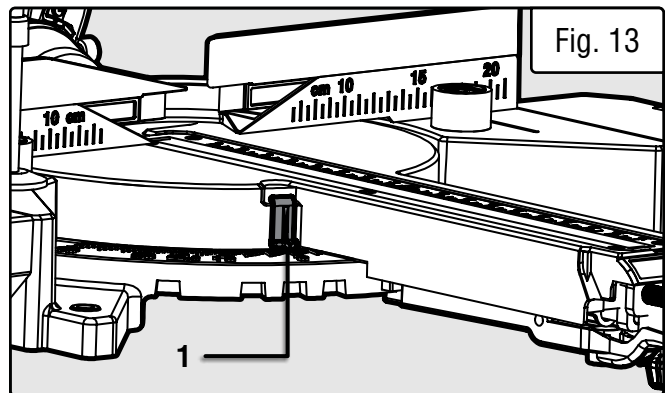

Fig. 13
1. Loosen the screw holding the miter scale indicator (Fig. 13 - 1).